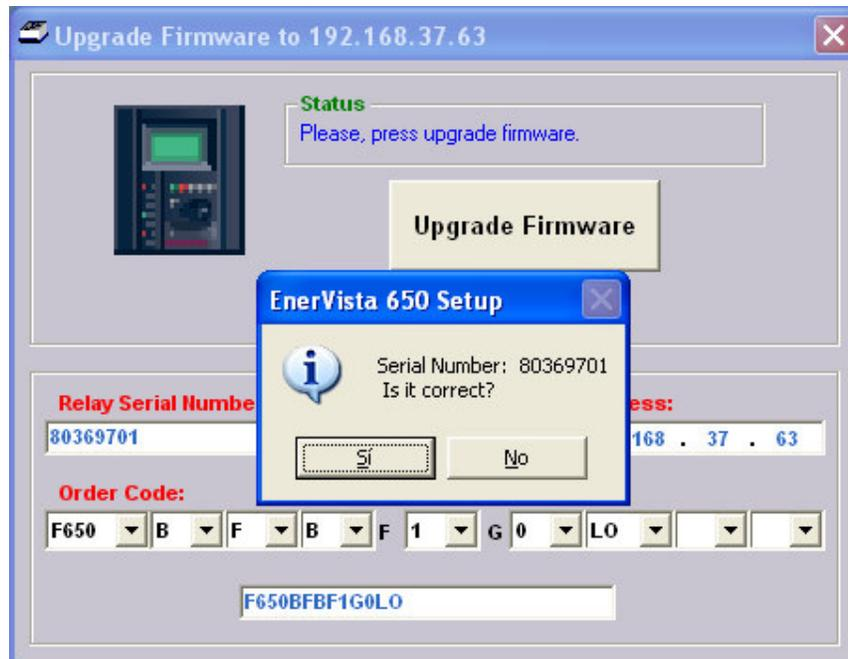

FIGURE 9-22: RELAY SERIAL NUMBER
- In versions 1.70 and higher it is also necessary to enter the ordering code for the relay. See Figure 9-22: